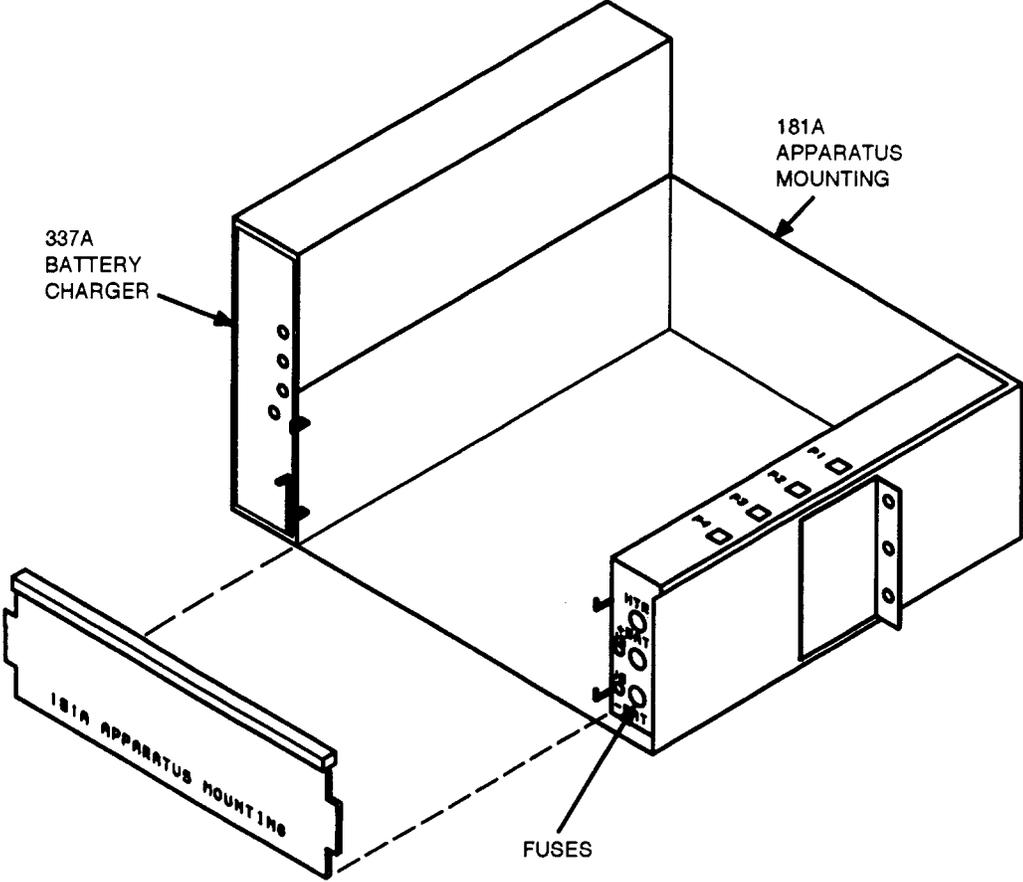

Figure 2 — Battery Shelf
23. At front of battery shelf, remove front cover by lifting cover up and out (Figure 2).